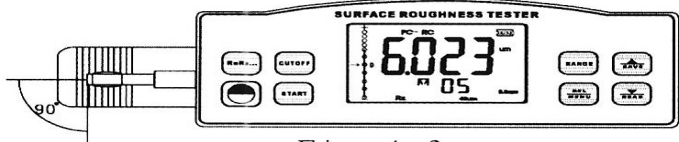

Fig. 4-2
- b) The sliding trail of the stylus must be vertical to the direction of the process line ("across the grain") of the measured surface. See **Figure 4-2**